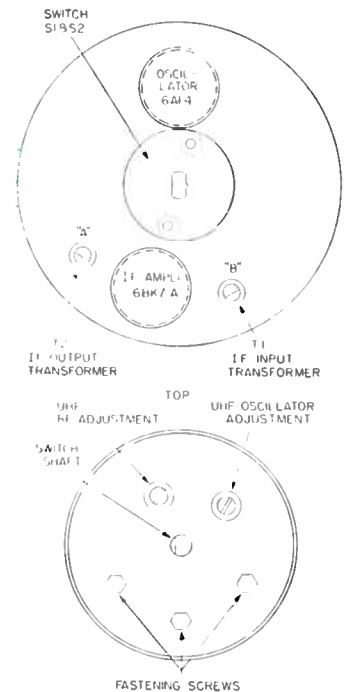

Fig. 5. Location of R-F, Oscillator and I-F adjustments on UHF-103 Tuner.
The General Electric Tuner like most other UHF tuners is set by the factory for Channel 5 operation. If there is a Channel 5 station operating in your area, there is a good possibility that enough of this signal will be picked up by the connecting leads to interfere with the converted UHF signal and produce an inferior picture. In this case, the i-f frequency should be shifted to Channel 6. This can be accomplished by turning core "A" in Fig. 5 approximately three counterclockwise. Then turn core "B" about two and a half turns counterclockwise.
1. Turn the receiver and UHF tuner on. Then set the tuner to any one of the UHF positions. If the tuner is set on a UHF position, the adjustment screws will be *directly* in the center of the UHF adjustment holes shown near the top of the lower drawing in Fig. 5. If the tuner is set on the VHF position, the adjustment screws will be *off-center* in these same holes.
5. Peak the i-f tuning cores of T1 and T2 (see Fig. 5) for maximum darkness of the bar pattern as observed on the screen of the picture tube. Reduce the output of the signal generator to maintain the medium gray level as the circuits approach optimum.
3. Turn the UHF oscillator tuning core in Fig. 5 counterclockwise until the slot is about level with the inside brown plastic plate. *Do not continue turning beyond this point or the core will drop out.*
5. Adjust the r-f tuning core in Fig. 5 for maximum picture signal.